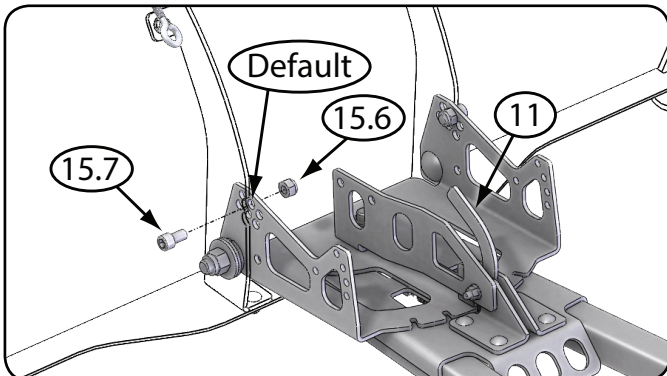

Figure 9 - Pitch Adjustment Bolt (spring not shown for clarity)
Figure 9 shows the default position.
- With springs installed and pitch blade under tension, install  $\frac{3}{4}$  in. (19.1 mm) hex socket head cap screw (15.7) using  $\frac{3}{8}$  in. (9.5 mm) Allen wrench or pliers; and  $\frac{7}{16}$  in. (11.1 mm) lock nut (15.6) into desired pitch position hole. As shown in Figure 9.